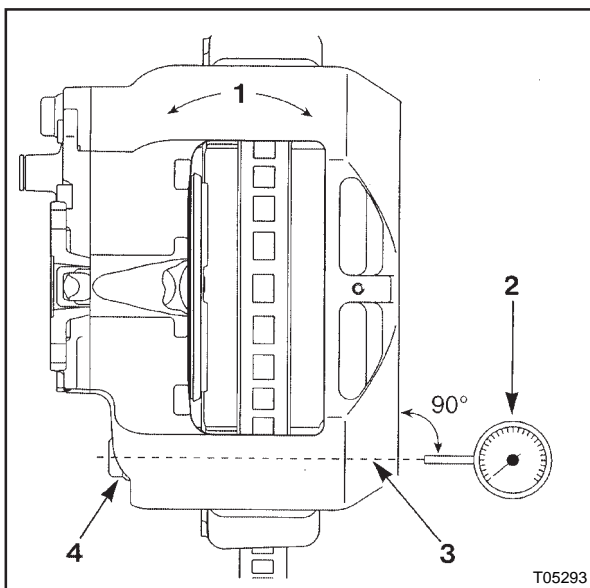

Figure 9 : Dial indicator installation
4. Check the sliding system for wear (see Figure 9).
- c. Grab the caliper with both hands at the long guide sleeve side (see Figure 10) and tilt it in the direction of the arrows (1) indicated in Figure 9 (do not slide the caliper!).